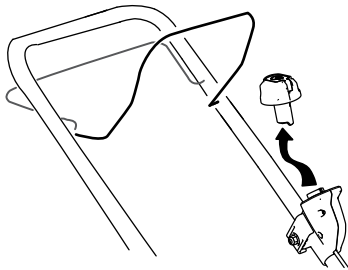

Figure 16
- Remove the electric-start button (Figure 16).